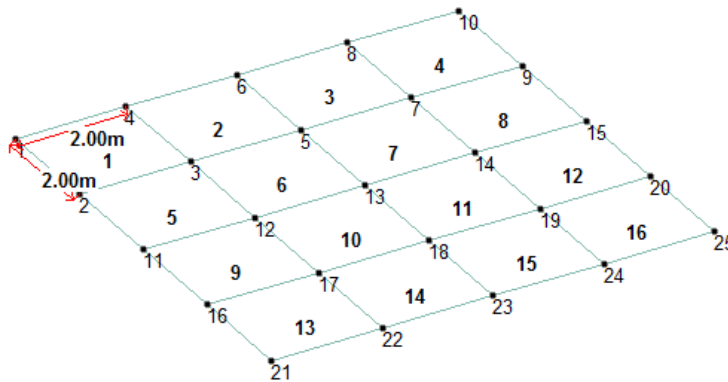

Figure 2-32 The roof slab
In this example, you will create plate elements using the Snap Node/Plate method. Figure 2-32 shows the structure to be created in this example.
Step 8: Repeat the previous steps and create plates 2 to 16, refer to Figure 2-32.